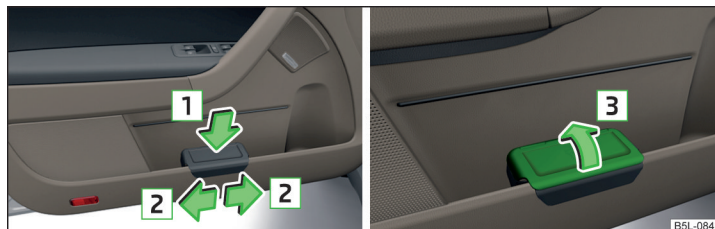

Fig. 86 Waste container: inserting and moving/opening
- Push the waste container to the back in the direction of the arrow **1** » Fig. 86.
- Remove the waste container in the opposite direction to the arrow **1** » Fig. 86.
- Remove the cover in the direction of arrow **3** » Fig. 86.